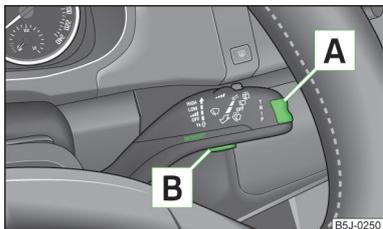

Fig. 22
Switch memories using button **B** » Fig. 22 on page 30 on the windscreen wiper stalk.
The Toggle button for selecting menu items **A** » Fig. 22 and button **B** are found on the wiper stalk.
› Briefly press the top or bottom of rocker switch **A** » Fig. 22. This opens the individual menu items in the multifunction display one after the other.
› Press button **B** » Fig. 22.
› Press and hold button **B** » Fig. 22.
- Press button  » Fig. 22 on page 30 to select the **Warning at** (MAXI DOT display) or  (segment display) menu item.